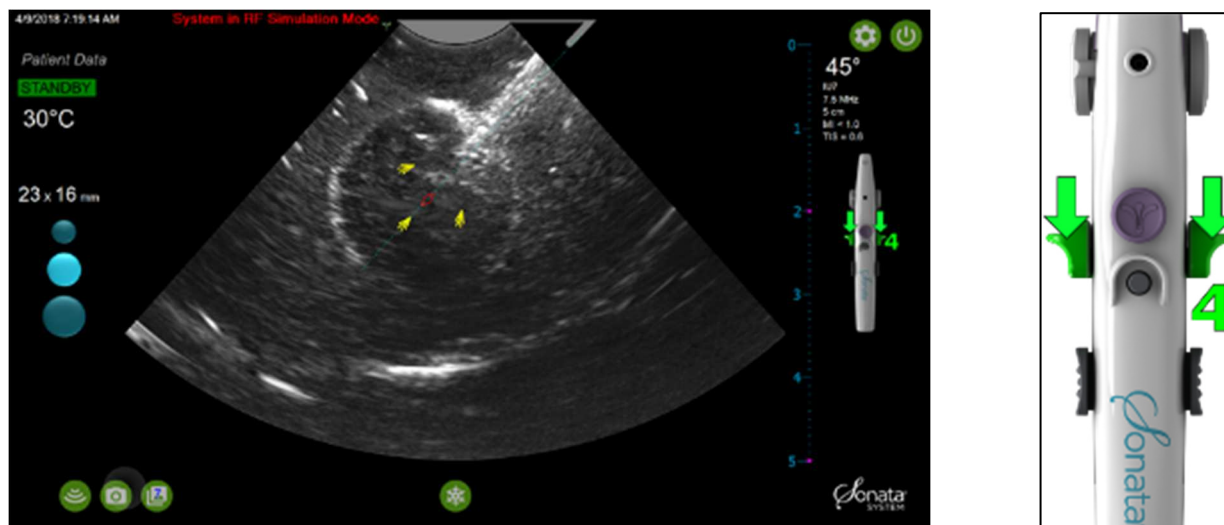

Figure 4-31. Yellow arrows will prompt the Operator retract Needle Electrodes by sliding the Needle Electrode Sliders back to the Introducer Sliders.
- Retract the Needle Electrodes until the Needle Electrode Sliders are firmly set against the Introducer Sliders, see Figure 4-31 Figure 4-31.